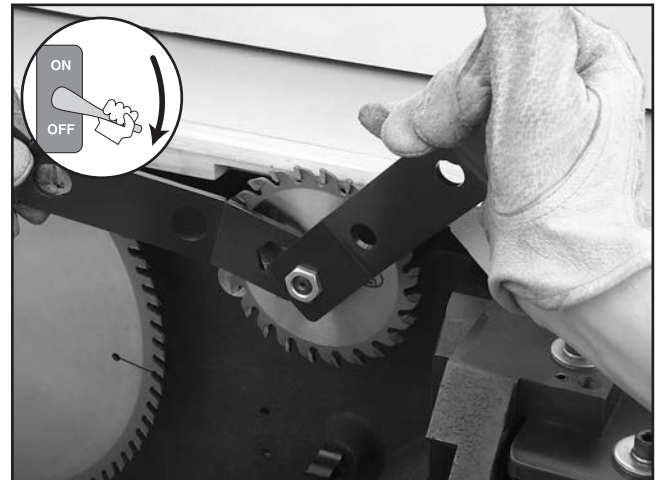

Figure 47. Removing the scoring blade.
39. Use both arbor wrenches, as shown in **Figure 47**, to verify that the scoring blade arbor nut is tight. (The scoring blade arbor nut has right-hand threads and tightens clockwise.)